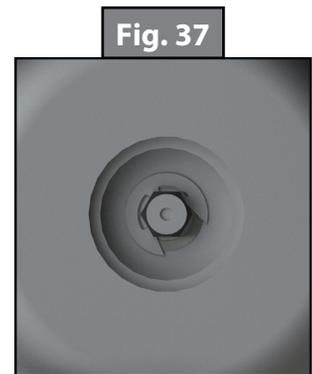

Fig. 37
7. Insert the $\frac{5}{16}$ " socket into the port (Fig. 37).